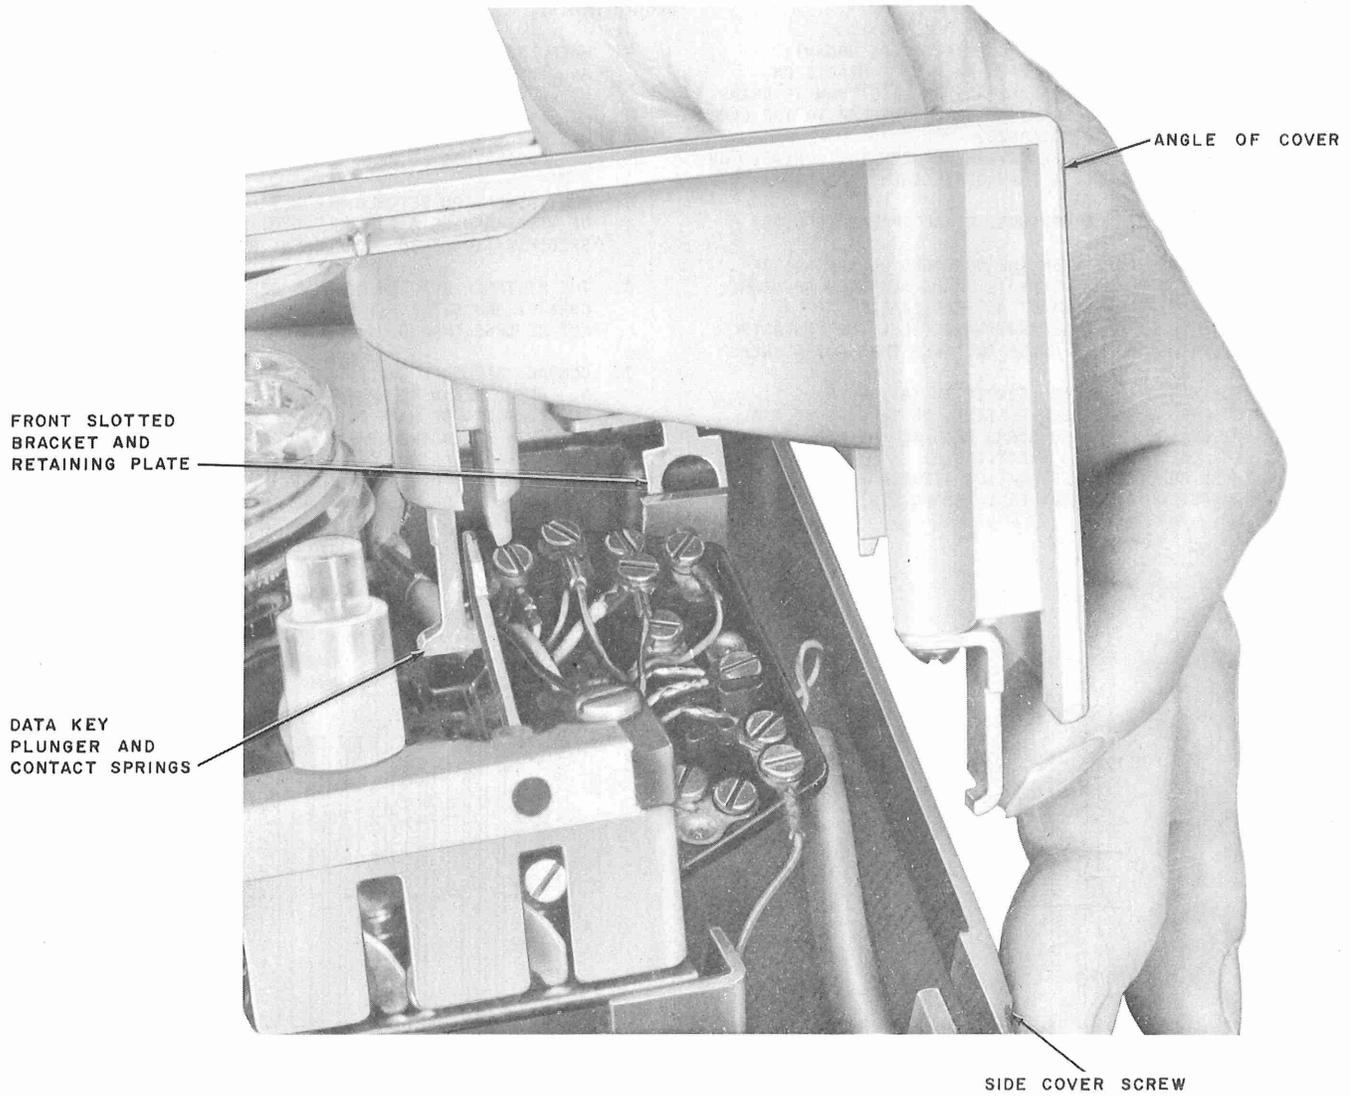

Fig. 8—Data Set 401E-Type—Method of Replacing Front Cover
- (1) Press in the two side holding screws and position the cover retaining plates.
- (2) Press in the two front holding screws to provide clearance between the base pan and cover retaining plates.
- (3) Holding the front cover at an angle as shown in Fig. 8, position the front slotted cover brackets between base pan and front cover retaining plates. Hold in the inside cover screws and carefully position the front section of the cover over the key unit and switchhook buttons, observing that the data key plunger is positioned properly between the outside contact springs.
- (4) Check test keys and switchhook buttons to make sure they do not bind on the cover.
- (5) Carefully replace rear cover and tighten all screws.